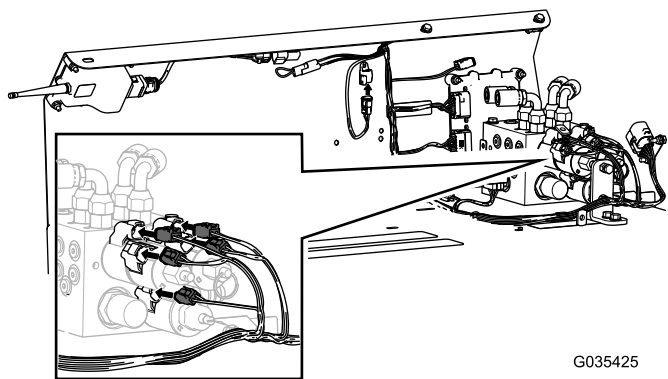
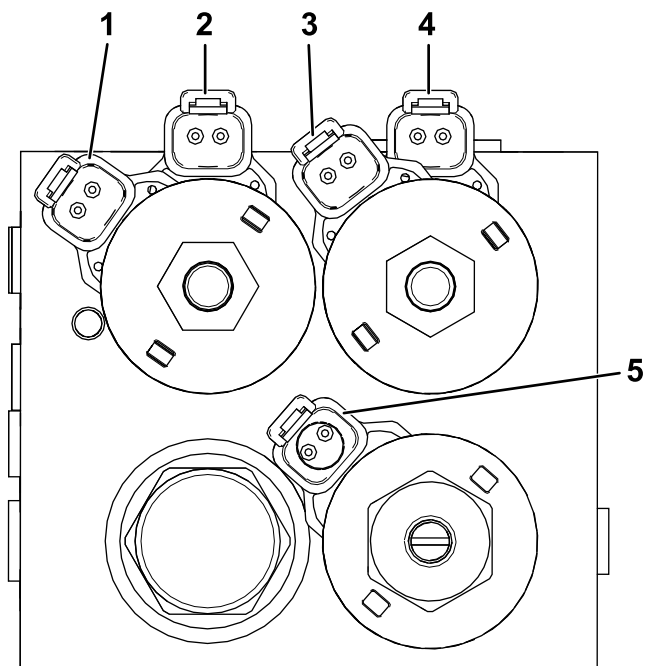

Figure 16
Figure 17
8. Plug the 5 harness connections into the appropriate locations on the hydraulic block; refer to Figure 16 and Figure 17.